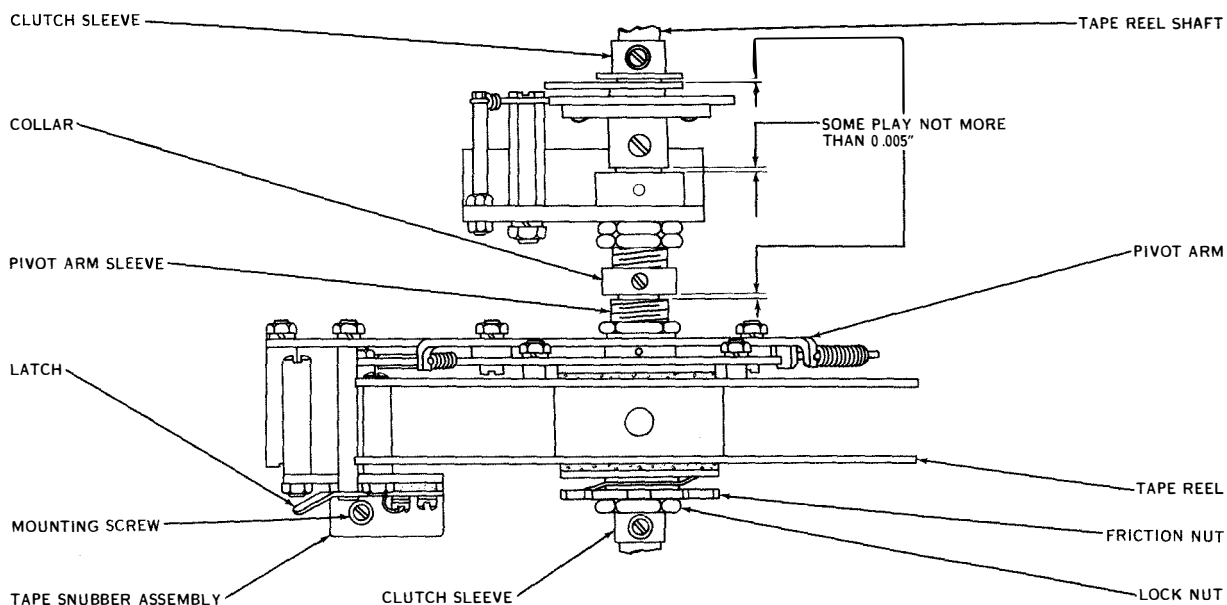

Figure 7-111. Tape Reel Ratchet Wheel Hub, Pivot Arm, and Latch
(12) RATCHET WHEEL HUB END PLAY. (See figure 7-111.)—There should be some end play, not more than 0.005 inch, between the ratchet wheel hub and bearing hub. To adjust, position the collar on the bearing by means of its setscrew.
(16) PIVOT ARM. (See figure 7-111.)—There should be some end play, not more than 0.005 inch, between the pivot arm hub and the clutch sleeve. To adjust, loosen the collar setscrews and position the collar. Retighten setscrews.
(17) PIVOT ARM LATCH. (See figure 7-111.)—The pivot arm should latch securely as its rear post drops into the hole of the pivot arm latch. To adjust, position the tape-snobber assembly by means of its mounting screws. To refine the adjustment, it may be necessary to reposition the spring latch by means of its mounting screws.